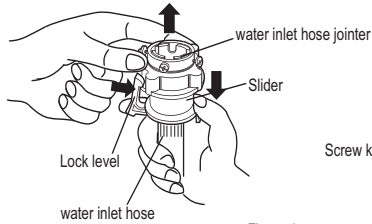
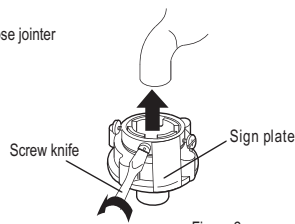
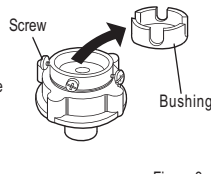

Figure 1
Figure 2
Figure 3
<p>Clean the detergent box and set it on the control panel seat.</p> <p>1.The method of dismantle: Push it up aslant and gently.</p> <p>2.The method of install : install it upwards and aslant and push it in .</p>  <p style="text-align: center;">Dismantle                      Install</p>	<ul style="list-style-type: none"> <li>● The lint filter must be used during washing.</li> <li>● It must be cleaned in time after each using.</li> </ul> <p>Lint filter:</p> <ol style="list-style-type: none"> <li>1.Push down the spring piece of the top lint filter to make the claws out of the filter cover, and then pull out the lint filter to get it down. (figure1)</li> <li>2.Pull the back of the lint filter, and then you can get down it off the front cover of the lint filter. (figure2)</li> <li>3.Sweep the rubbish in the lint filter.</li> <li>4.Put the back of the lint filter into the front cover .</li> <li>5,Put the lint filter into filter cover, and make it tight .</li> <li>6.Make sure the lint filter well installed, or it can influence your use.</li> </ol>  <p style="text-align: center;">Figure 1                      Figure 2</p>
1. Press the lower end of the lock lever and push down the slider. Take off the water inlet hose jointer from the water inlet hose component. See to Figure 1.
2. Loosen the screw till the water faucet can be accessed. Put the jointer of the water inlet hose on the faucet. See to Figure 2. (If the faucet is too large and the jointer can not be set on the water faucet, please loosen the four screws and take out the bushing in the jointer. The front end of the faucet must be smooth, otherwise it may leak water. See to Figure 3.)